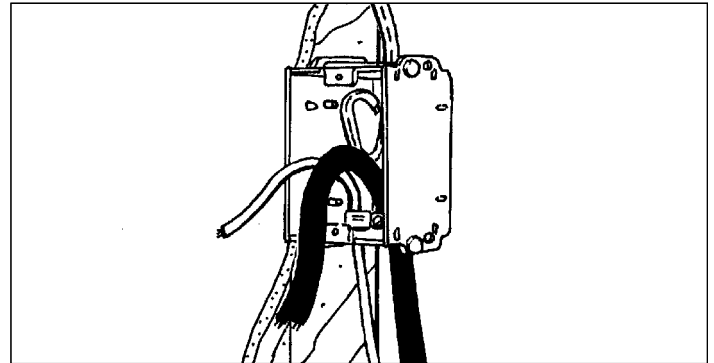

Figure 4
3. Trim excess length of supply branch circuit, cold lead and temperature sensor cables, as necessary, leaving about 6" projecting from the Electrical Connection Box (ECB), see Figure 4.